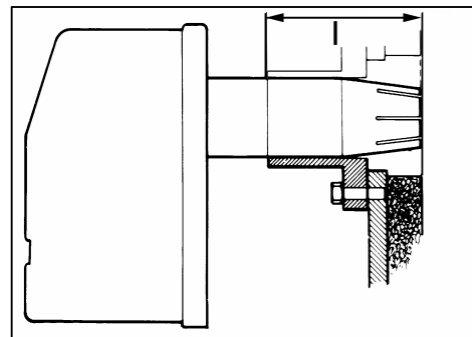

Figure 10
- 3.1 Measure and set the distance from the back of the gasket, mounted behind the mounting plate, to the front of the flange using the table below and figure 10.
- 3.3 Push the burnerpipe gently in place up to the scribed position (see figure 10)